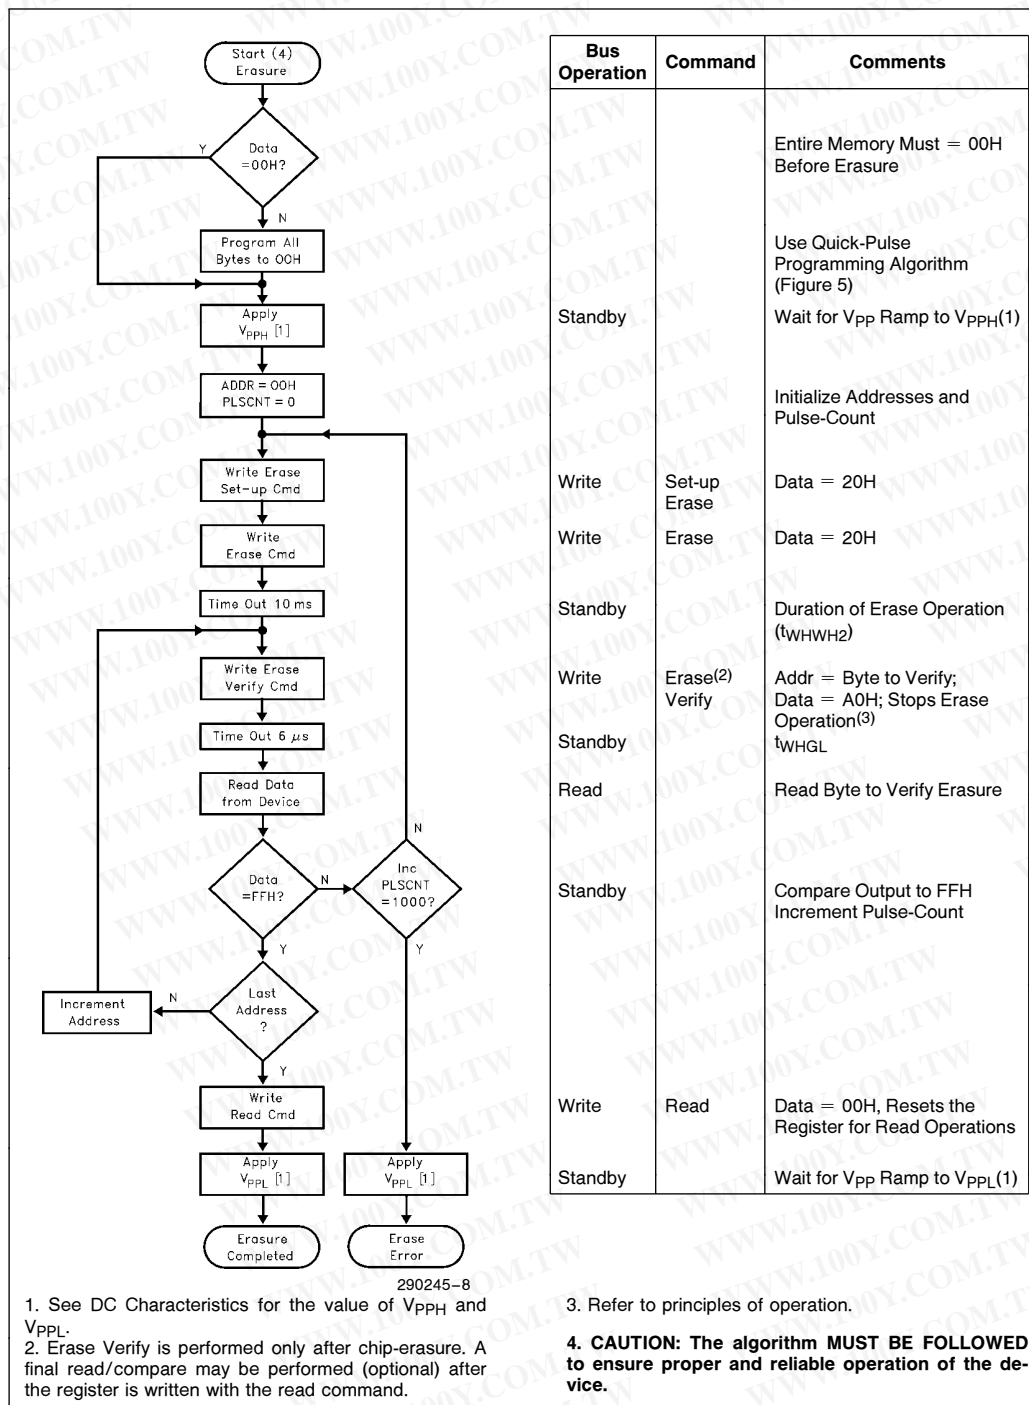

Figure 6. 28F020 Quick-Erase Algorithm
- Figure 6 illustrates the Quick-Erase Algorithm.
In the case where the data read is not FFH, another erase operation is performed. (Refer to Set-up Erase/Erase). Verification then resumes from the address of the last-verified byte. Once all bytes in the array have been verified, the erase step is complete. The device can be programmed. At this point, the verify operation is terminated by writing a valid command (e.g. Program Set-up) to the command register. Figure 6, the Quick-Erase algorithm, illustrates how commands and bus operations are combined to perform electrical erasure of the 28F020. Refer to AC Erase Characteristics and Waveforms for specific timing parameters.
Erasure execution then continues with an initial erase operation. Erase verification (data = FFH) begins at address 0000H and continues through the array to the last address, or until data other than FFH is encountered. With each erase operation, an increasing number of bytes verify to the erased state. Erase efficiency may be improved by storing the address of the last byte verified in a register. Following the next erase operation, verification starts at that stored address location. Erasure typically occurs in two seconds. Figure 6 illustrates the Quick-Erase algorithm.